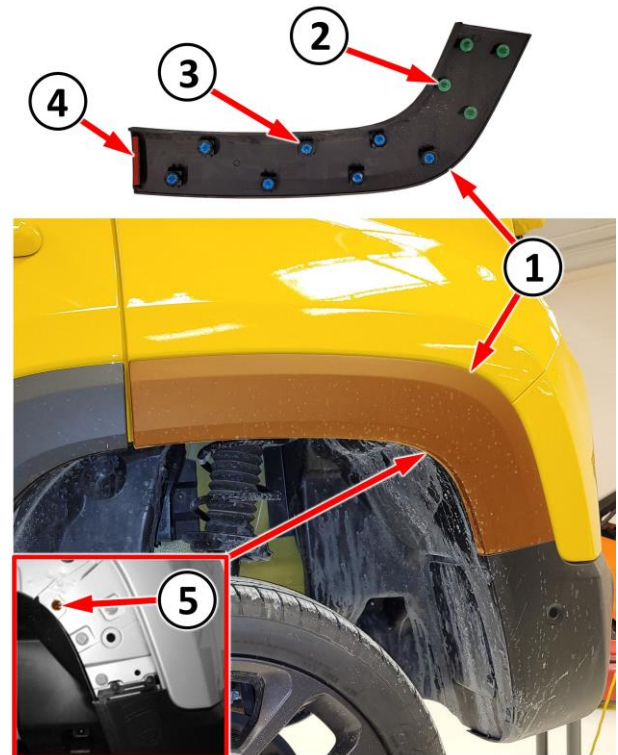

Figure 8 – Wheel Flare
13. Carefully pull back the wheelhouse liner only enough to gain access to the wheel flare (1) lower attaching clips (2, 3) (Figure 8).
14. Release the lower portion of the wheel flare (1) by using a socket of an appropriate size small enough to depress the retaining tabs of the attaching clips (2, 3). Use the socket to push the retaining tabs from the back side (Figure 8).
15. Using a trim stick or equivalent, carefully release the remaining upper portion of the wheel flare attaching clips (2, 3) to remove the wheel flare (1) (Figure 8).
NOTE: The wheel flare (1) is secured to the vehicle by the following (Figure 8):
- Trim adhesive tape (4).
- Four green clips (2).
- Seven blue clips (3).
16. Remove the screws (5) from both sides of the rear fascia (Figure 8).
30. Install the screws (5) on both sides of the rear fascia (Figure 8).
31. Position the rear wheel flare molding (1) and hand tap to engage the retaining clips (2, 3) on both sides of the vehicle (Figure 8).